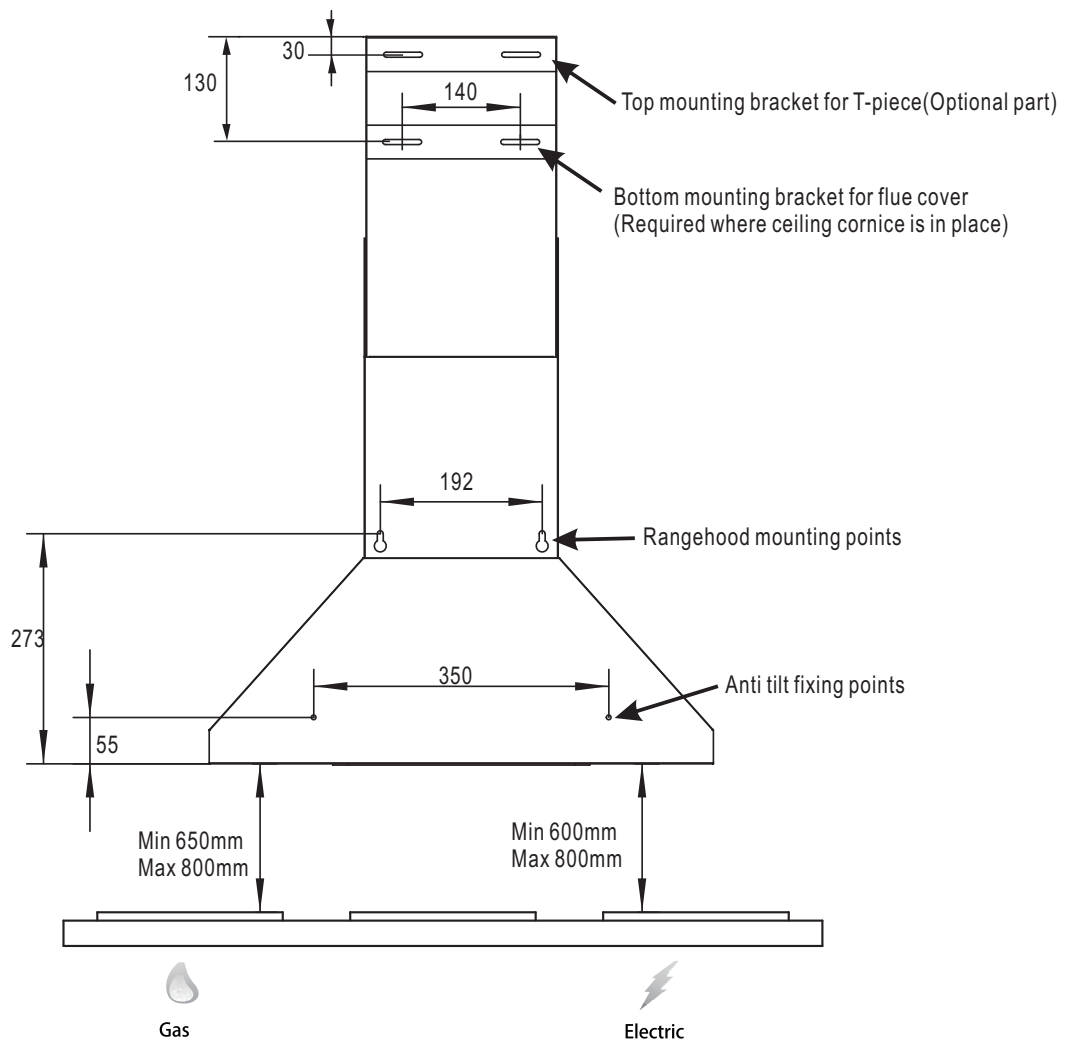
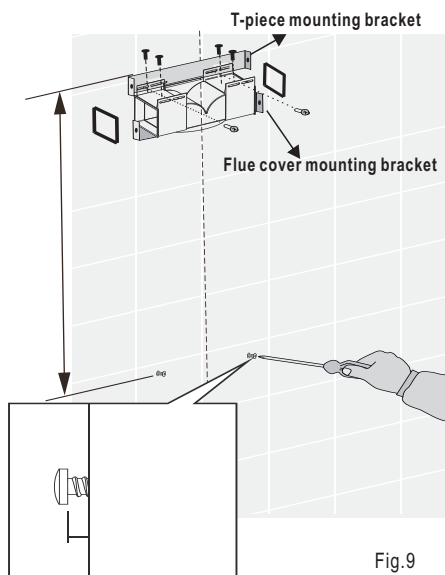
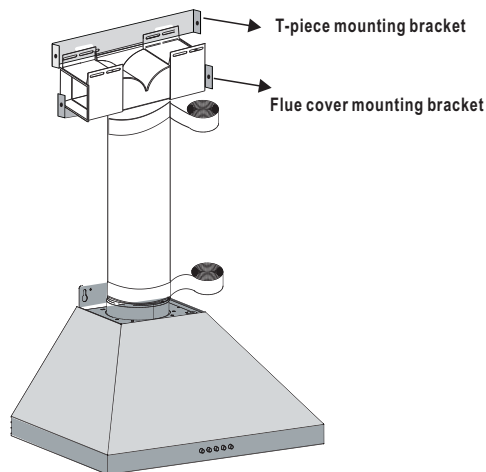

Fig.5
Fig.9
Fig.10
3. Install flue cover wall mounting brackets with suitable fasteners. Suitable fasteners must be used for rangehood mounting points. Refer to Fig.5 for dimensions. If installation is for recirculation mode refer to Item 6a and Fig.9.
6a. Recirculating mode(Fig.9)
Fix the T-piece to the top mounting bracket by using the 4 screws supplied as dimension indicated Fig 5. Adhere two sponge to the outlet of T-piece. Using the centre line, install the recirculating T-piece and mounting bracket to the wall. Install flexible pipe between T- piece and air outlet. Use cable ties or suitable duct tape to secure flexible pipe to T-piece and outlet of the hood.(Fig.10)